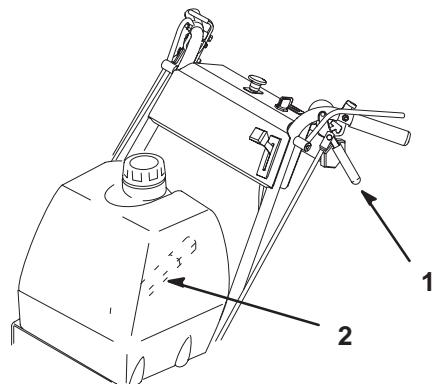

Figure 21
3. Slowly release the drive levers to move forward (Fig. 21).
To go straight, release drive levers equally (Fig. 21).
To turn, squeeze the drive lever on the side and direction you want to turn (Fig. 21).
3. Slowly release the drive levers together to move rearward (Fig. 21).